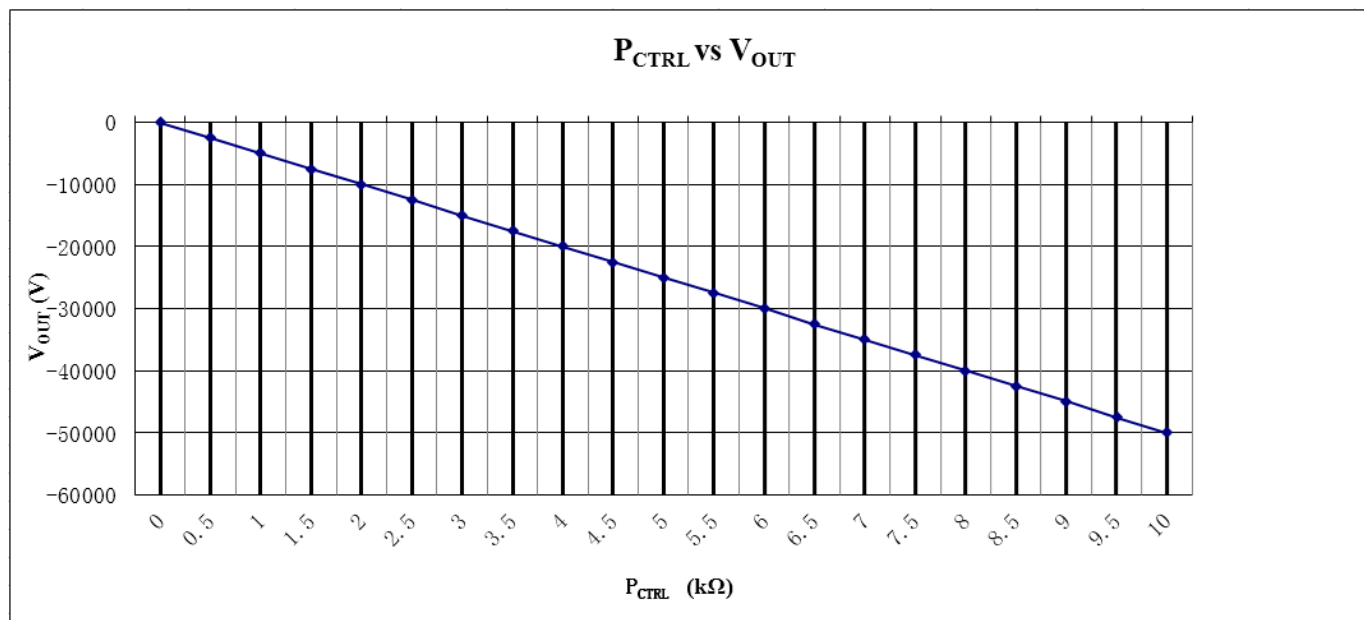

Figure 4. P_{CTRL} VS. V_{OUT}
5. HV adjustment: 10-turn potentiometer for adjusting output voltage. Rotate it clockwise to increase the output voltage, and the potentiometer resistance = the corresponding scale $\times$ 10 Ω . For example, as Figure 4 shows, when the scale is 10, and the frame above the scale shows 1 (1k Ω), then the resistance = $10 \times 10\Omega + 1k\Omega = 1.1k\Omega$, and the like.